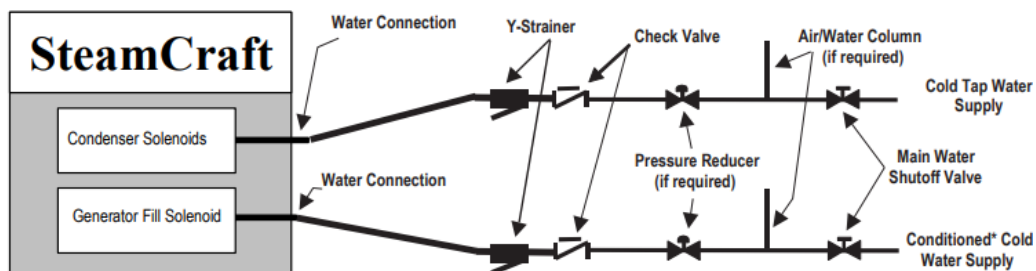

Figure 3-3 Cleveland Range Separate Water Supply Arrangement
- d) If the water supply fails to meet the requirements shown in the Warranty, then use the Separate Feed Water Supply Arrangement shown in Figure 3-3.